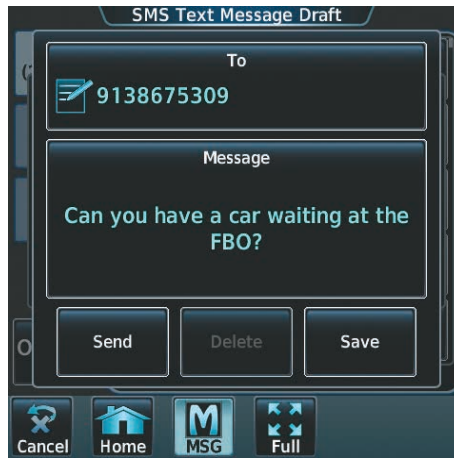

Figure 8-78 Message Ready to Send
- 9) Touch the **Enter** Button. The message text is displayed in the 'Message' Window as shown in Figure 8-78.